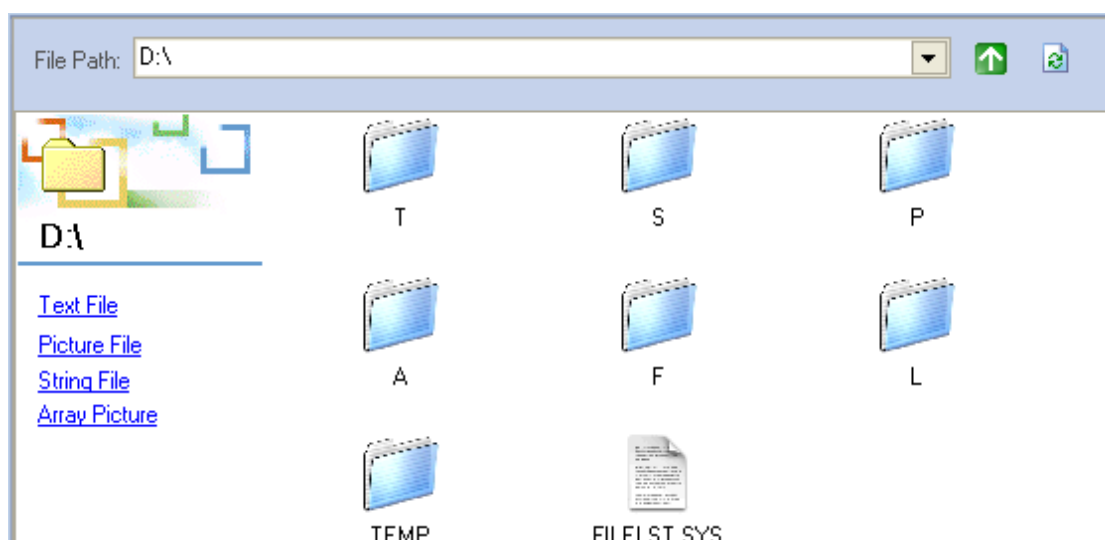

Fig. 6.10 Directory of Disk D
**Disk D:** Disk D is Flash disk which save the play files of systems. As is shown in Fig 6.10, it is the directory of Disk D.